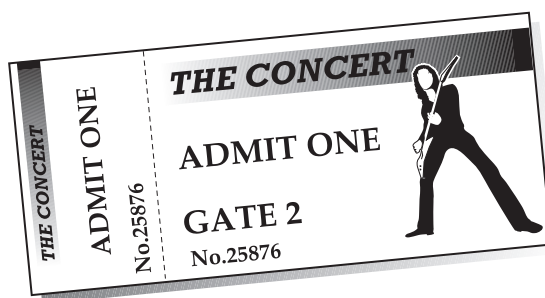

Fig. 5
- 5 Fig. 5 shows an event ticket with a printed hologram.